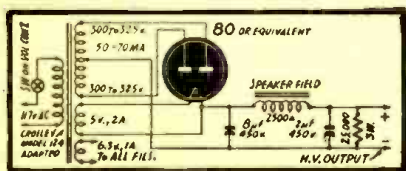
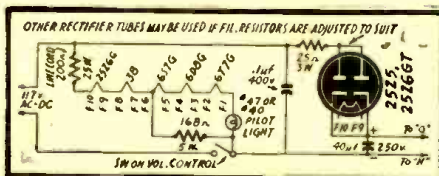
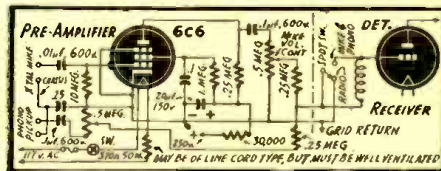

Figure 1
Figure 2
Figure 3
**A.** The circuits illustrated appear to suit your requirements (see Figs. 1 and 2).
Of the diagrams shown, Fig. 1 is the simplest but will not handle severe interference. Fig. 3 is for the severe types and Fig. 2 is for the intermediate degrees of interference. The diagrams are self-explanatory, but before installing a filter it is advisable to make certain your interference is not due to direct radiation or starter trouble mentioned above.
**A.** The circuit shown here (Figure 3) includes a mike pre-amplifier diagram and a diagram of your set. The connections between the two are as indicated.